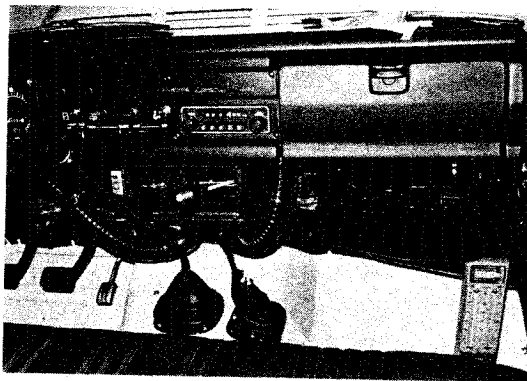

Fig. 103
- 5) Insert the dry bulb thermometer in the cool air outlet, and place the psychrometer (dry and wet bulb thermometer) close to the inlet of cooling unit. See Fig. 103.